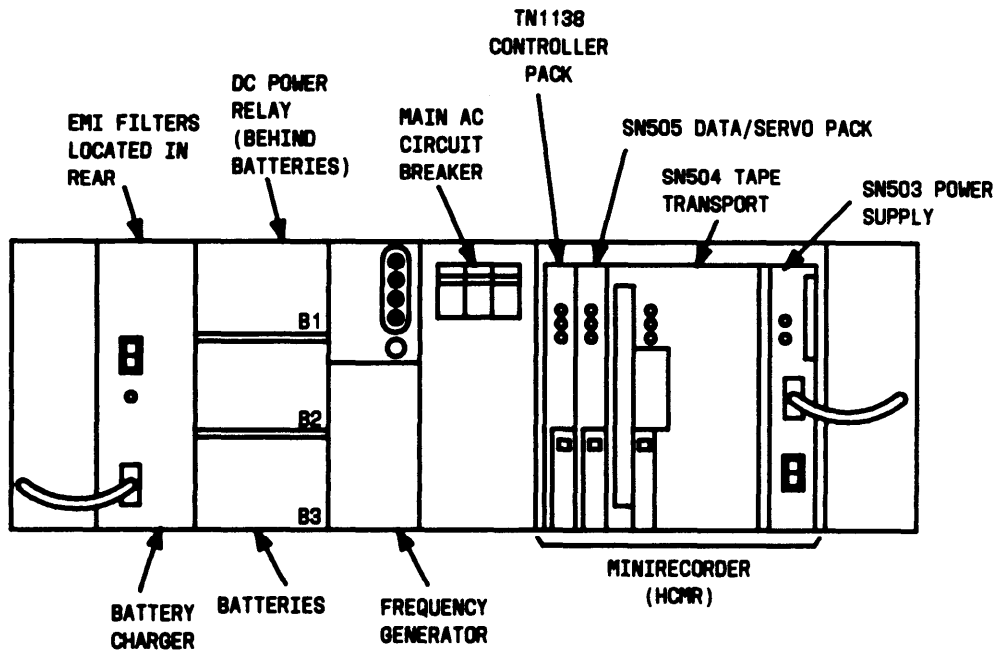

Figure 7. Power Distribution Unit
2. At the power distribution "unit (Figure 7), set the main ac circuit breaker to OFF.
2. At the power distribution unit (Figure 7), set the main ac circuit breaker to OFF.